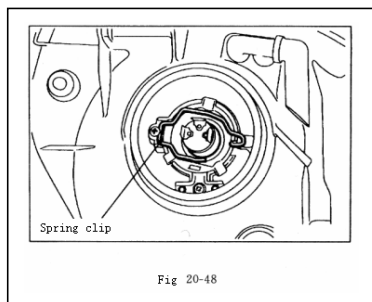

Fig 20-48
①Disconnect connector
②Remove socket cover
③Remove bulb mounting spring to pull out bulb(as fig 20-48)
④After bulb is replaced, properly reconnect connector